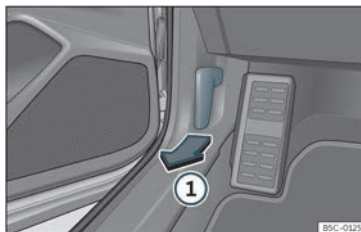

Fig. 212 Release lever in the driver's footwell area.
- Open the door and pull the lever under the dashboard» Fig. 212 ①.